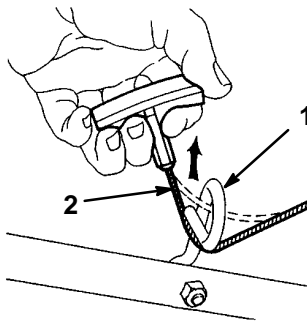

Figure 2
5. Pull starter rope through rope guide on handle (Fig. 2).